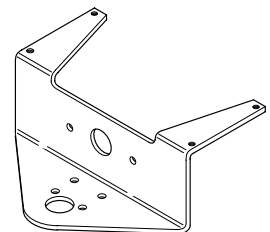

FIGURE 1
3. To under counter mount, choose a mounting surface that will support the weight of the unit. Using mounting bracket DCI PN 4274 (not included), mount to underside of counter utilizing the four pre-drilled holes and appropriate fasteners (see Figure 1). Mount the back chassis assembly to the control unit using the appropriate fasteners.